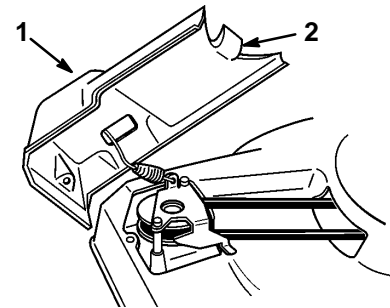

Figure 31
2. Tilt the cover up to the side and remove debris (Fig. 31) from under the cover and pulley groove.